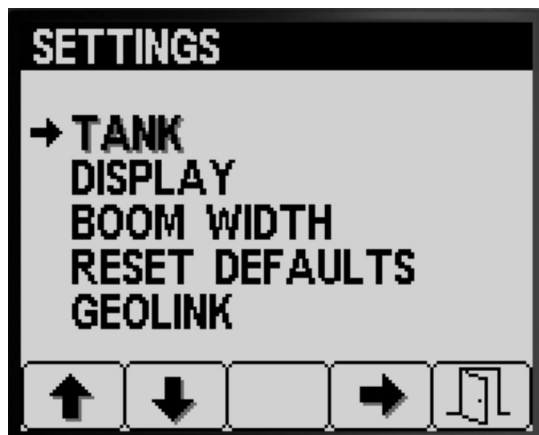

Figure 11
1. Press button 1 or 2 to navigate to the TANK option (Figure 11).
2. Press button 4 to select TANK sub-menu (Figure 11).